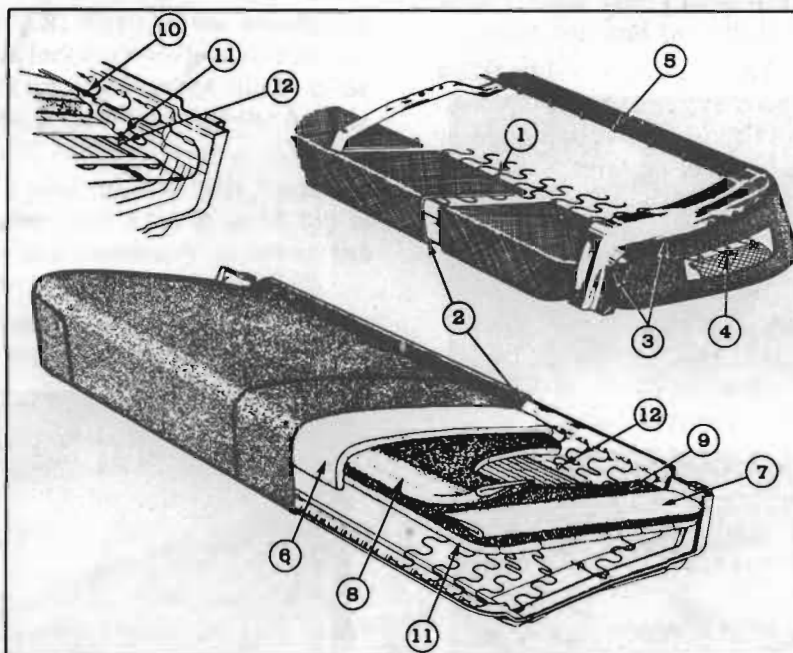

Figure 13-51—Front Seat Cushion Trim Installation
2. Referring to figure 13-51, remove hog rings holding bottom rear facing indicated at (1) to spring and frame. Remove loose wadding (2) from back of seat frame.
3. Remove hog rings securing end facing to slots in seat frame at (3). Also remove hog rings holding end listing to spring at (4).
4. Remove hog rings retaining front facing at (5) to slots at rear of front frame bar.
5. Turn cushion over, turn back trim cover and remove cotton pad (6), cotton batts (7) and (8) and latexed hair pad (9).
6. Remove hog rings securing top rear facing to spring at (10).
7. Remove hog rings holding cotton pad to springs at (11). If necessary, the wire insulator may be removed by disengaging hog rings as indicated at (12).
10. Attach cotton pad to spring at (11) with eight hog rings along each front and rear edge and three along each end. See figure 13-51.
11. Hog ring the top rear facing to spring with thirteen rings as shown at (10).
12. Place latexed hair pad over foundation pad at (9) and tuck snugly at rear.
13. Place a cotton batt over hair pad at each end (7) and along front (8). Batt is opened one-third.
14. *Place cotton pad (6) over batts with tobacco cloth backing down against the latexed hair pad. Tuck snugly at rear.*
15. Turn cushion upside down and hog ring the front facing at (5) to slots at rear of front frame bar with fourteen hog rings.
16. Secure each end facing to slots in cushion frame with six hog rings at (3). Also apply two hog rings at end of each facing.
17. Hog ring the end listing at (4) to the spring with three rings.
18. Apply wadding to back of cushion frame at (2) and proceed to secure the bottom rear facing to spring with eight hog rings and to frame with two hog rings at each end as shown at (1).